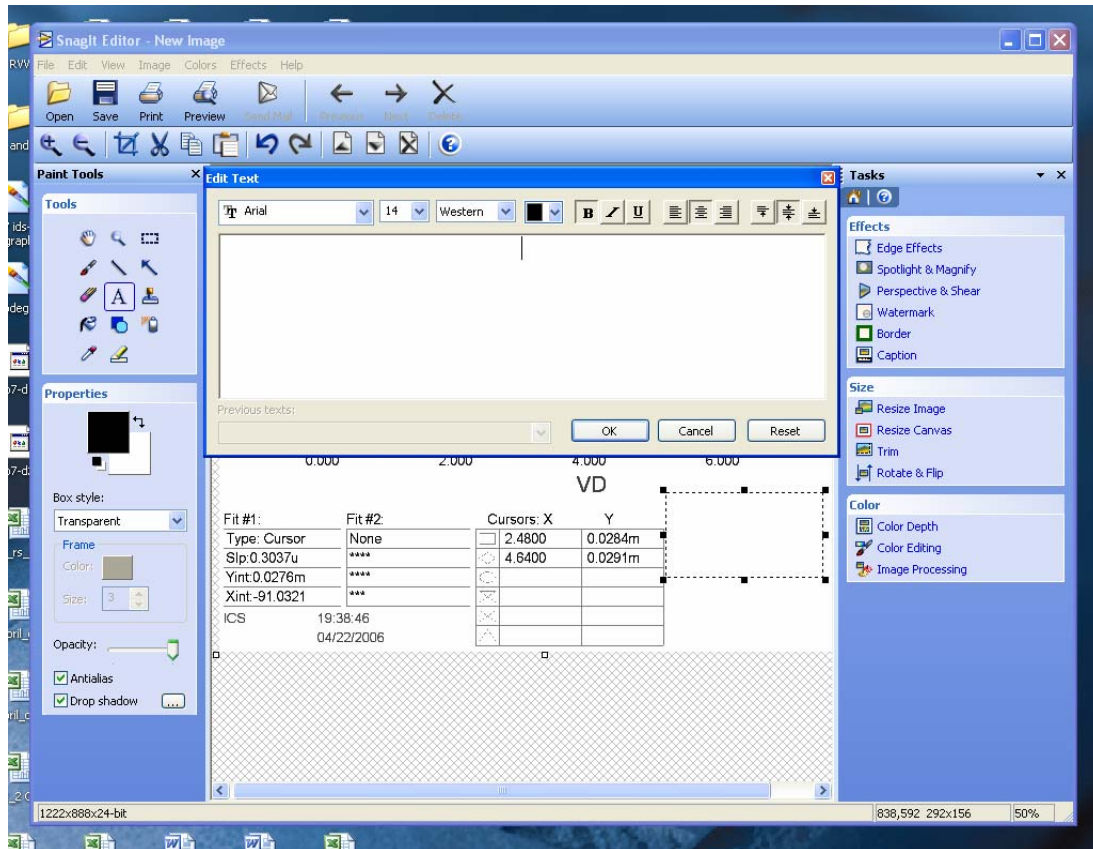

Figure 77: Adding text dialogue
2. Use the cursor to create a dialogue box, then a small window will pop-up to edit the text, see Figure 77.